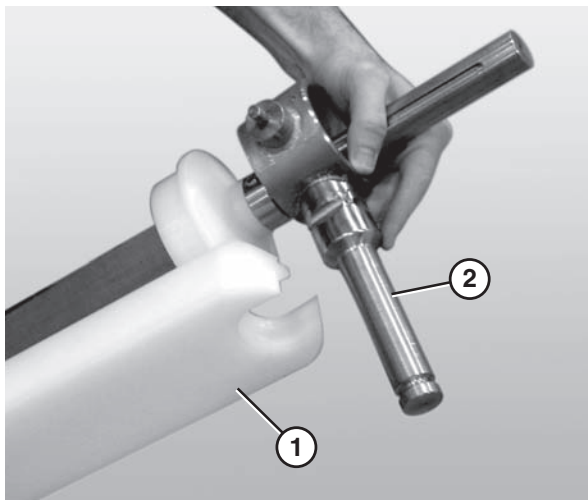

Figure 86
8. Attach the guard bar (**Figure 86, item 1**) to the bearing / motor mount bracket shafts (**Figure 86, item 2**).